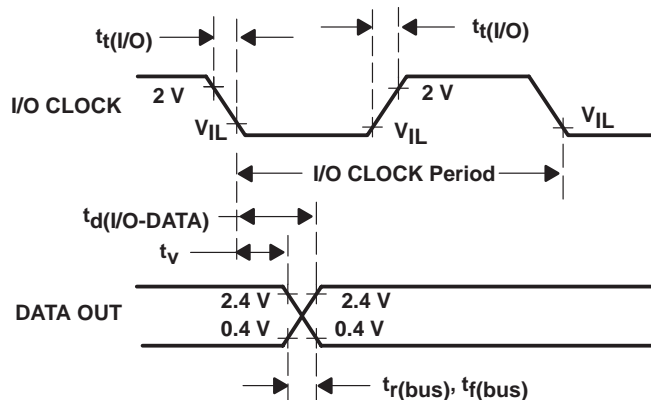

Figure 6. DATA OUT and I/O CLOCK Voltage Waveforms
- I/O CLOCK period = 1/(I/O CLOCK frequency) (see Figure 6).